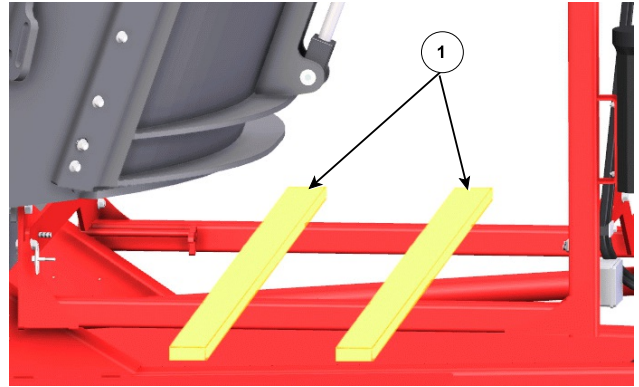

Figure 4: Skids To Help with Installation of Conveyor
6. To aid in the installation of the conveyor, place skids (1) between the lower support frame of the platform, see *Figure 4*. Use either: